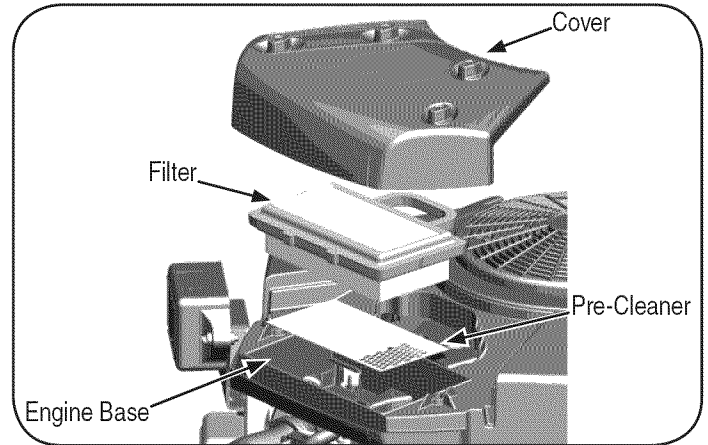

Figure 28
2. To remove the air filter, lift the end of the filter. See Figure 28.